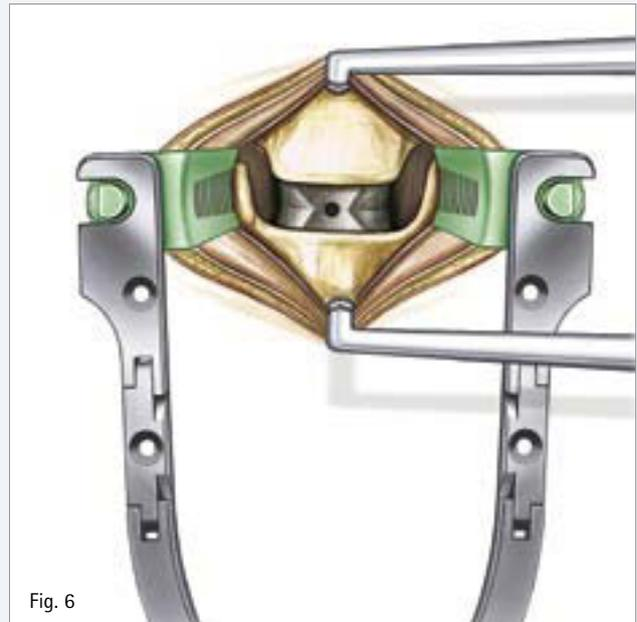

Fig. 6
- The CeSPACE® implant should be inserted centrally in AP direction leaving a distance of approximately 1-2 mm to both the anterior and posterior rim (Fig. 6).